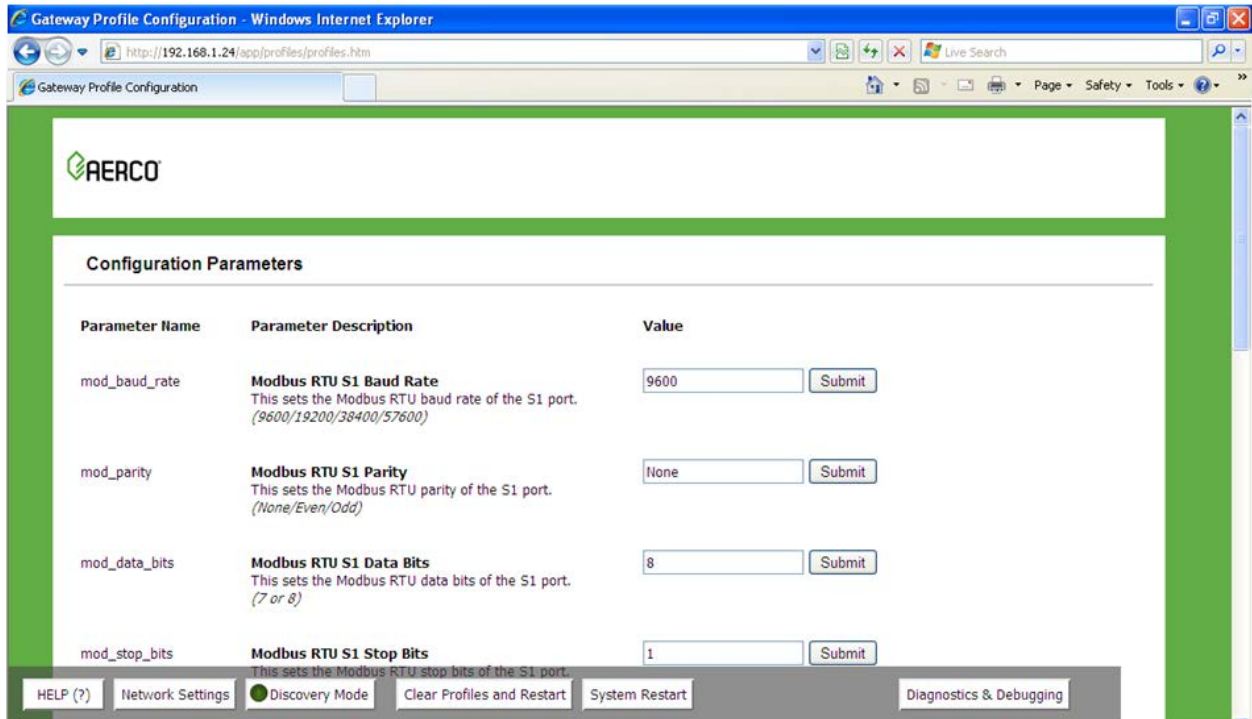

Figure 5-1: Web Configurator screen
- The Web Configurator will be displayed as your landing page (see Figure 5-1, below).